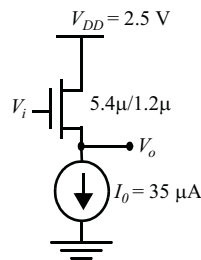

Figure 0.6 Source-follower level converter.
- [M, None, 3.3.2] The circuit of Figure 0.6 is known as a *source-follower* configuration. It achieves a DC level shift between the input and output. The value of this shift is determined by the current I_0 . Assume $\gamma = 0.4$, $2|\phi_t| = 0.6\text{ V}$, $V_{T0} = 0.43\text{ V}$, $k' = 115\ \mu\text{A}/\text{V}^2$, and $\lambda = 0$. The NMOS device has $W/L = 5.4\mu/1.2\mu$ such that the short channel effects are not observed.